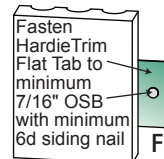

Figure 2
- Step 2:** For wood frame construction, attach the trim to the building with minimum 6d siding nails fastened through the HardieTrim Flat Tabs (Figures 2 & 3) *. ET&F or equivalent fasteners may be used to attach the HardieTrim Flat Tabs to steel frame construction. (Figures 2 & 3)